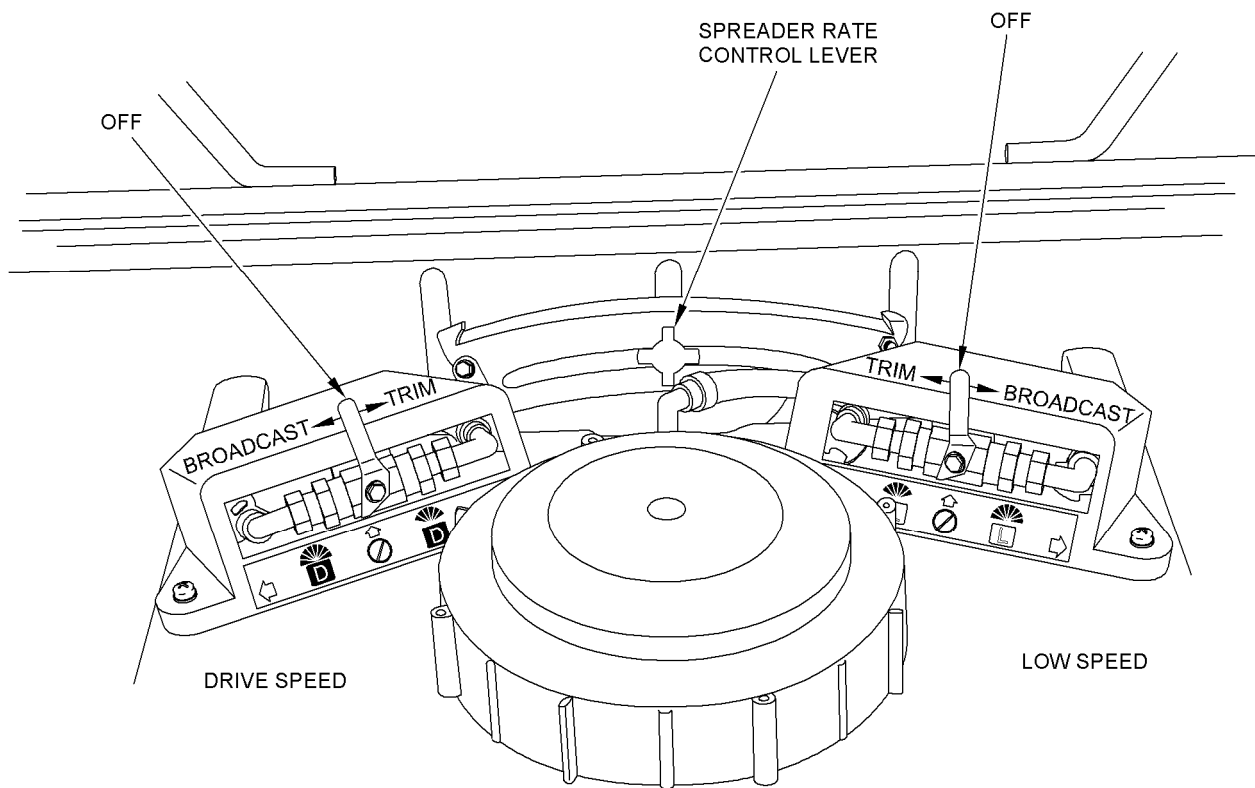

Figure 10. Setting the Spray Control Valve
- b. For spraying, set the spray valve (refer to Figure 10) to select the spray nozzle that will be used according to pattern (broadcast or trim) that is desired, and the speed (DRIVE gear or LOW gear) that will be used during spraying.